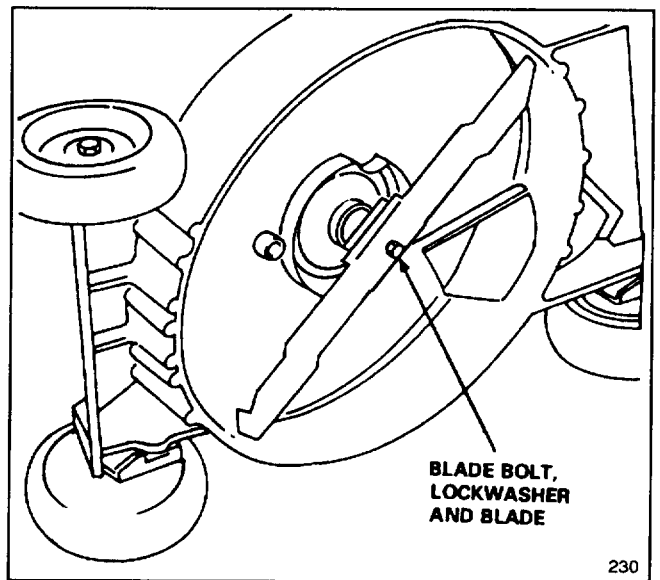

Figure 23
3. Tip mower on its right side (Fig. 23). Avoid rotating blade as starting problems may result.
5. REMOVING BLADE—Grasp end of blade using a rag or thickly padded glove. Remove blade bolt, lockwasher, and blade (Fig. 23).